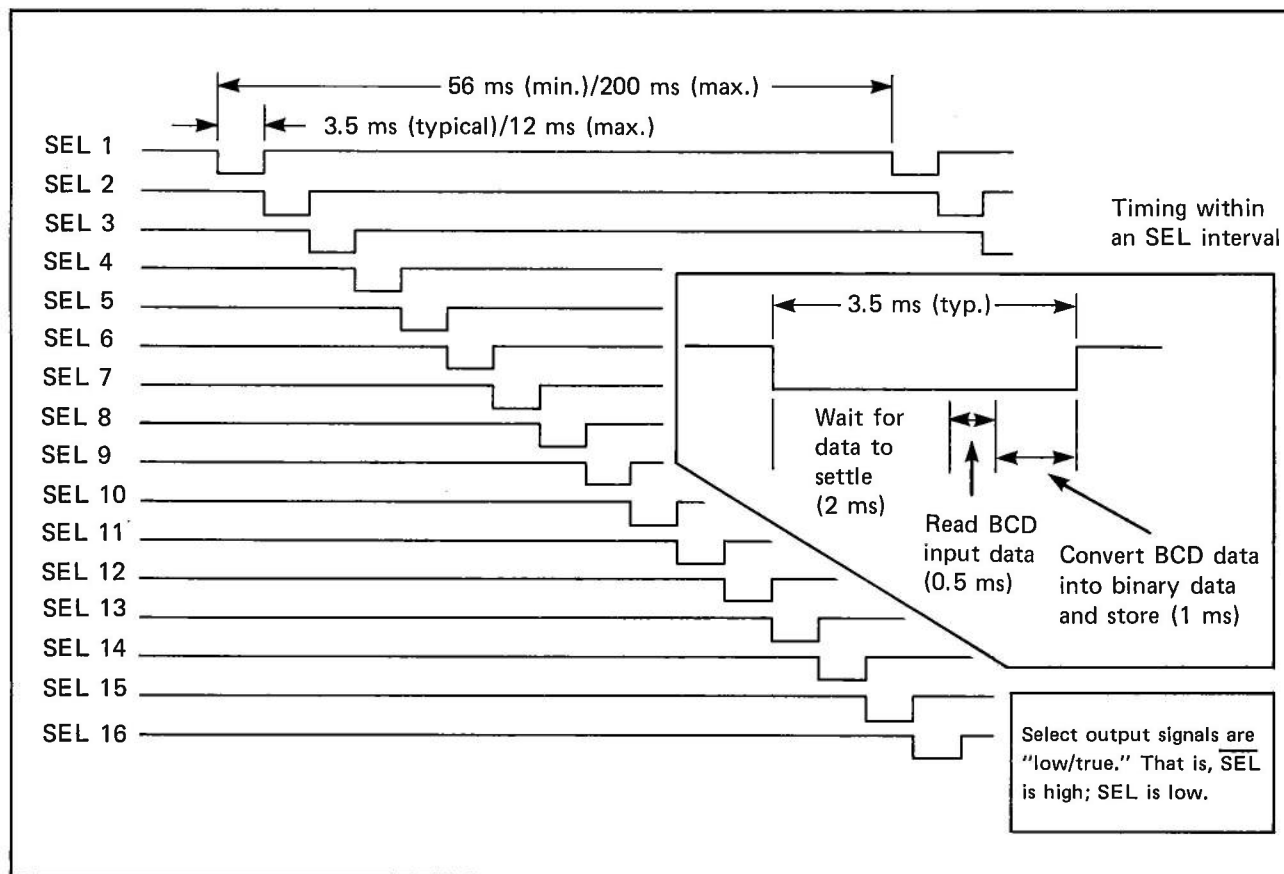

Figure 13 – Module Scan Timing Diagram
9. There is no time delay from the deselection of one field device and the selection of a second device. For example, SEL1 goes high at the same time SEL2 goes low. (A timing diagram is shown in Figure 13.) The Catalog No. NLT-715 Thumbwheel meets this requirement. However, this may be an application consideration if other types of devices are chosen.
Since the data inputs of the Module have a propagation delay of about 1 ms, field device data must be present and stable on the bus **within** 1 ms after a device SEL line goes low. This data must be maintained on the bus until the line goes high, at which time the field device must immediately disable its output. There is no delay between individual SEL signals. (See Figure 13.)